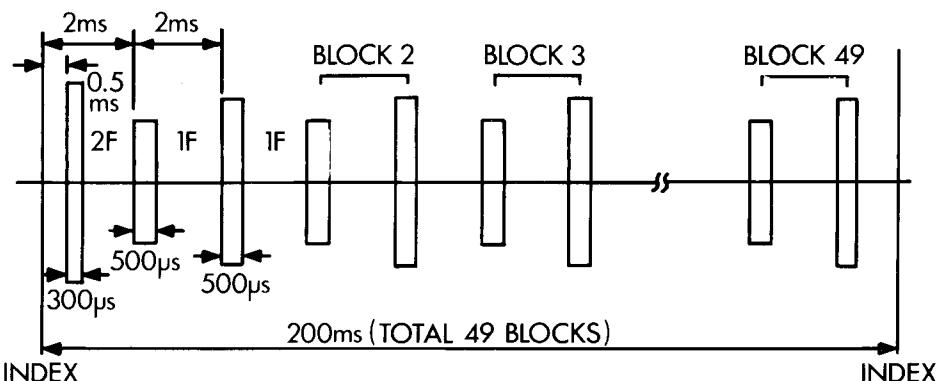

Fig.1 Waveform of T19 (Servo pattern)
1. Radial adjustment by use of Track 19 (Fig. 1).	<input type="radio"/>